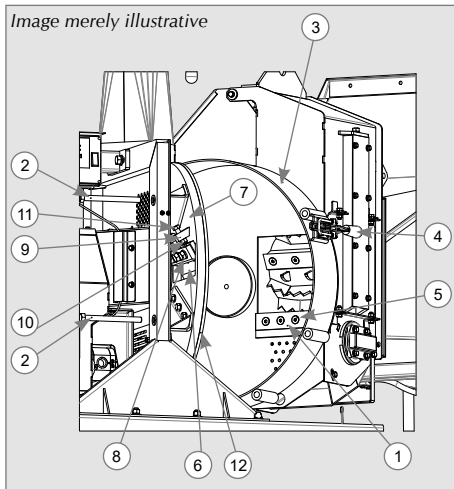

Figure 16
- ✓ Loosen and remove the 5 screws (2) that make the closing of the body of the cutting set (3) and open the lock (4), open the cutting set body (3). Next, loosen the screws (5), sharpen the counter-knife or turn it to the sharpened position; if it cannot be reused, replace it with a new counter-knife; then, reassemble with the screws and nuts, tightening as necessary, as per Figure 16.
- ✓ With the body of the cutting set open, loosen the screws (8) until you notice that the knives are loose; next, remove the knife (6). Do this with the remaining knives to be sharpened or replaced, then reassemble by tightening the screws (8) that hold the knife to the disk (7), observing the correct torque. For the regulation of the knife, we have a jamb (9) on
the cutting disk, in which we have a counter-nut (10) and a screw (11); this screw will serve as jamb and regulator of the disk knife. To adjust the disk knife, simply loosen the counter-nut (10), turn the screw (11) using a proper wrench until positioning it at the necessary measure to compensate the wear of the knife; then, retighten the counter-nut (10). Do this before reassembling the knife on the disk. Upon concluding the fixing of the knife on the disk, check the position of the knife to guarantee the distance between knife and counter-knife. This distance is of 4 mm, with a variation of 1 mm for more or less. To this end, the cutting line of the knife cannot exceed the extremity of the square bar (12) welded at the extremity of the disk (7). Upon completing the verification of the knife's position, perform the closing of the cutting set body, partially inserting the 5 screws (2) to guide the holes before triggering the lock (4) that secures the body of the cutting set; then, tighten the 5 screws (2) observing the correct torque, as per Figure 16.